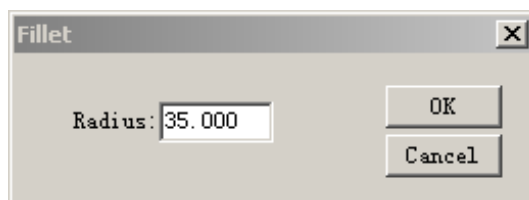

Fig. 8-18
3. A dialog (Fig. 8-18) is displayed.